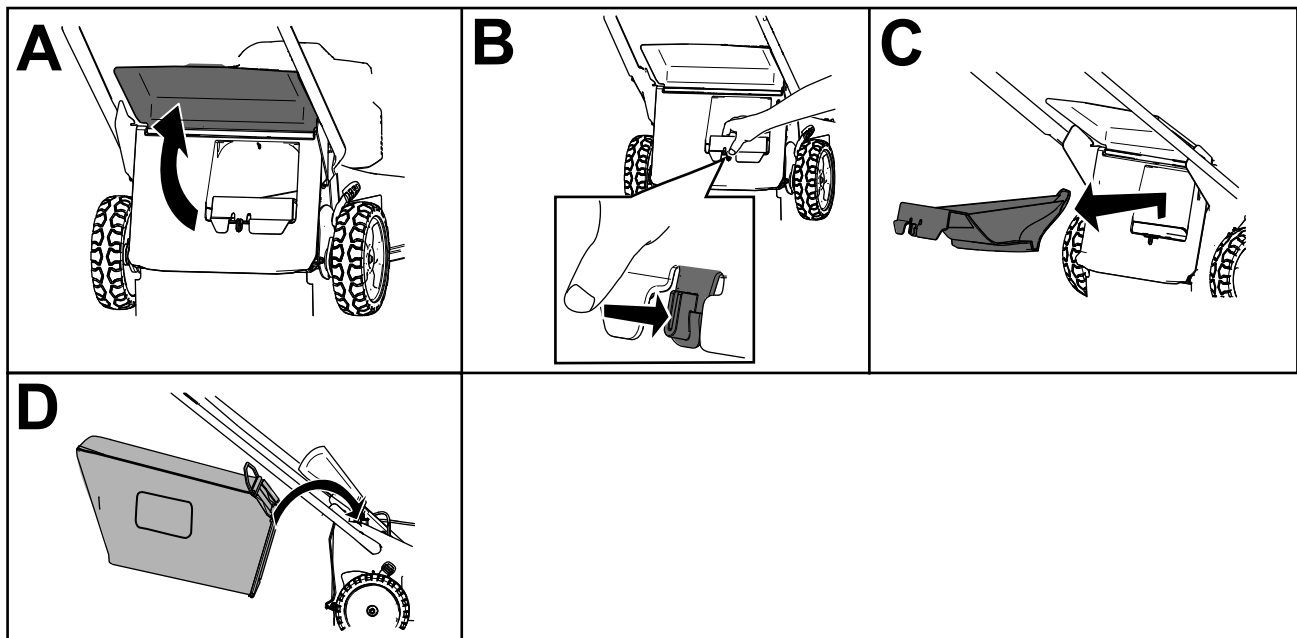

Figure 20
Note: To unlock the rear plug, rotate the lever on the plug to the right (Figure 20).
3. Raise and hold up the rear deflector (A of Figure 20).
4. Remove the rear-discharge plug by pushing in the latch with your thumb and pulling the plug out from the machine (B and C of Figure 20).
5. Install the bag-rod ends into the notches at the base of the handle, and rock the bag back and forth to ensure that the bag-rod ends are seated at the bottom of both notches (D of Figure 20).
3. Remove the bag rod on the grass bag from the notches at the base of the handle (A of Figure 20).
4. Install the discharge plug (B of Figure 20).
5. Lower the rear deflector (C of Figure 20).